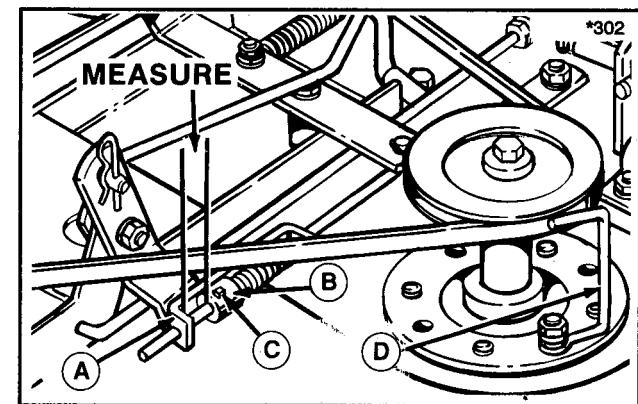

Figure 42. Drive Belt Tension
Using the mower lift lever, lower the mower. Using the height control lever, place the mower in highest cutting position. Place the PTO lever in engaged position. The gap between the rod guide (A, figure 42) and the set collar (B) should measure $3/8$ to $1/2$ inch (10 to 13 mm). If not, disengage the PTO. Loosen the setscrew (C). Move the rod forward to increase the gap or back to decrease the gap then tighten the setscrew. Engage the PTO and recheck the adjustment. Readjust if necessary.